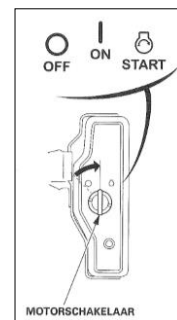

Figure: 29
- Set the ignition switch on the engine to the 1/ON position (see figure 29).
- The Honda engine can also be started using the ignition switch on the engine itself (see figure 29).